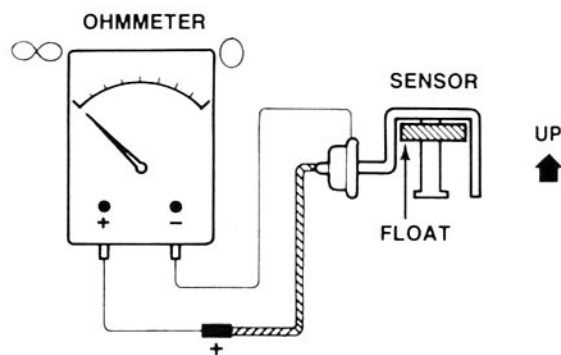

Fig. 1
- a. When the float is in the “UP” position, the ohmmeter should not show any continuity. (fig. 1)
1. Once the oil has been drained from the oil pan, remove the lower hose from the oil cooler and allow any oil in the cooler to drain out. (fig. 1)